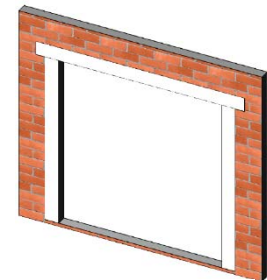

Figure 33:
3. Finally, at the head, embed the flashing into the sealant on the mounting flange and fasten into place. The flashing paper should be cut sufficiently long enough to extend past the flashing paper at each jamb by at least 3 in (Figure 33).